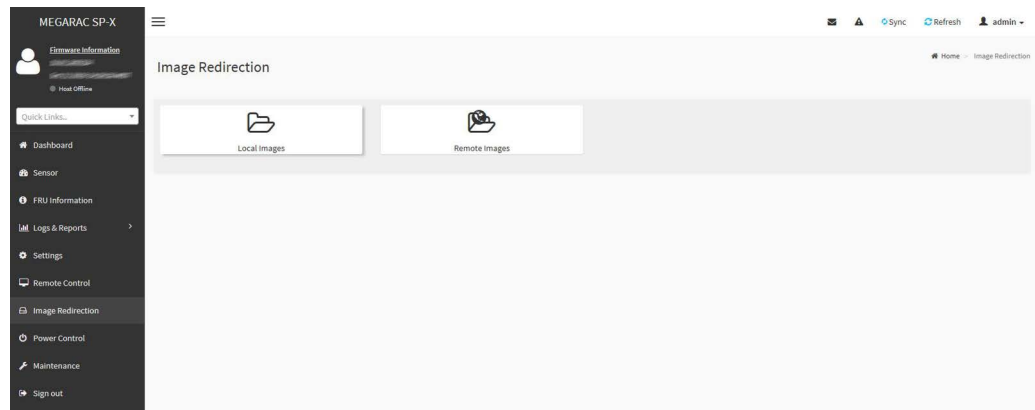

Figure 7.16 Image redirection menu
10. **Image Redirection** provides users and administrators with the ability to mount a remote disk image to the server and install software, operating systems, files, BIOS images etc. Refer to Figure 7.16 to view the image redirection menu.